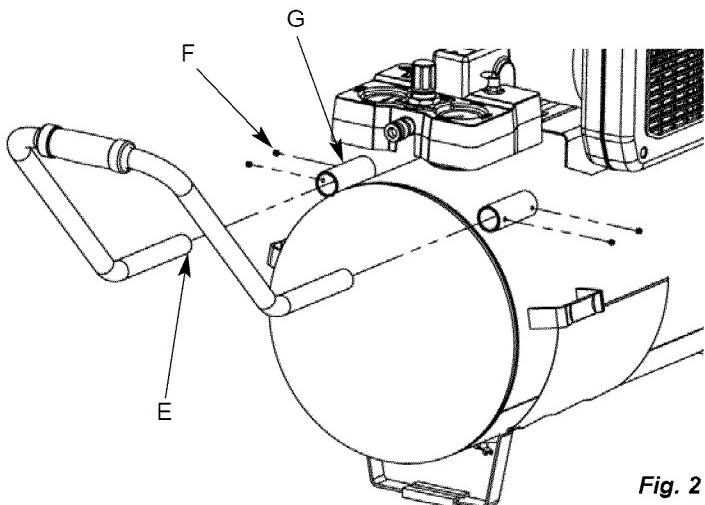

Fig. 2
3. Install the handle by loosening the set screws (**F**) and then placing the handle ends (**E**) into the handle brackets (**G**) and secure with the set screws (**F**) (see *Fig. 2*). Tighten screws using a size 3mm hex wrench (not included).